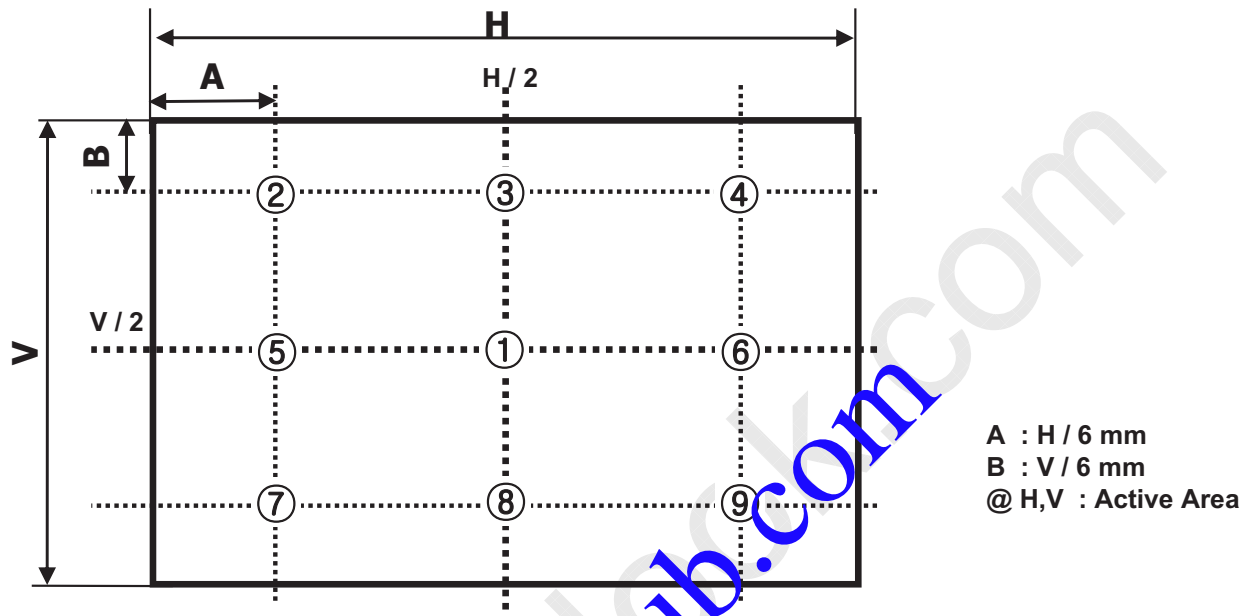

FIG. 2 9 Points for Luminance Measure
2. Surface luminance is determined after the unit has been 'ON' and 1 Hour after lighting the backlight in a dark environment at  $25 \pm 2^\circ\text{C}$ . Surface luminance is the luminance value at center 1-point across the LCD surface 50cm from the surface with all pixels displaying white. For more information see the FIG. 2.
For more information, see the FIG. 2.